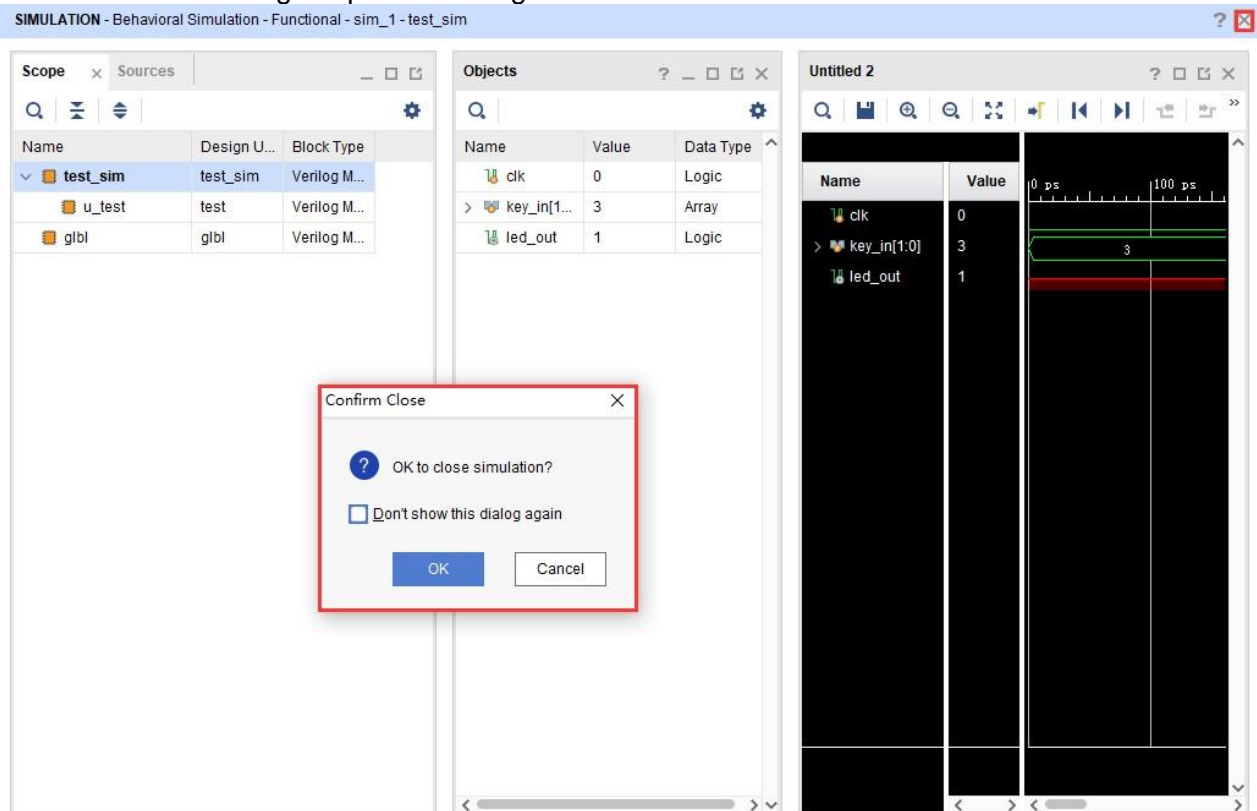

Figure 13.
1. Click **X** on the Right-Up corner of figure 13 and click **OK** to close the SIMULATION.